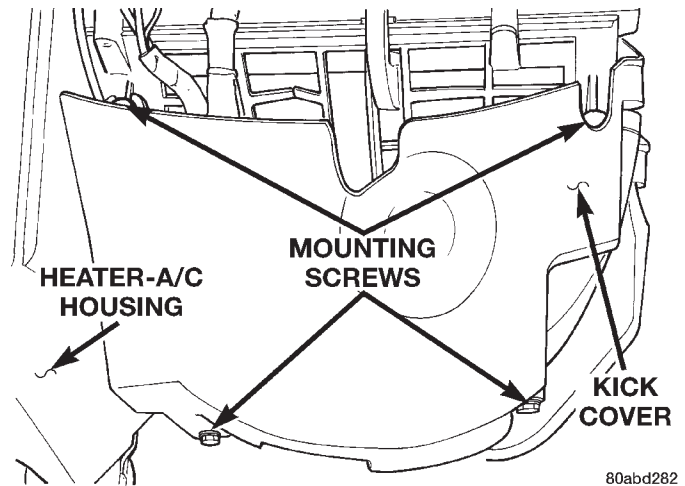

Fig. 43 Kick Cover Remove/Install
- (1) Disconnect and isolate the battery negative cable.
- (2) Loosen the two screws that secure the upper half of the kick cover to the heater-A/C housing under the passenger side end of the instrument panel (Fig. 43).
- (3) Remove the two screws that secure the lower half of the kick cover to the heater-A/C housing.
- (4) Pull the kick cover down towards the floor panel to disengage the slotted upper mounting tabs from under the two loosened heater-A/C housing screws.
- (5) Remove the kick cover from the heater-A/C housing.